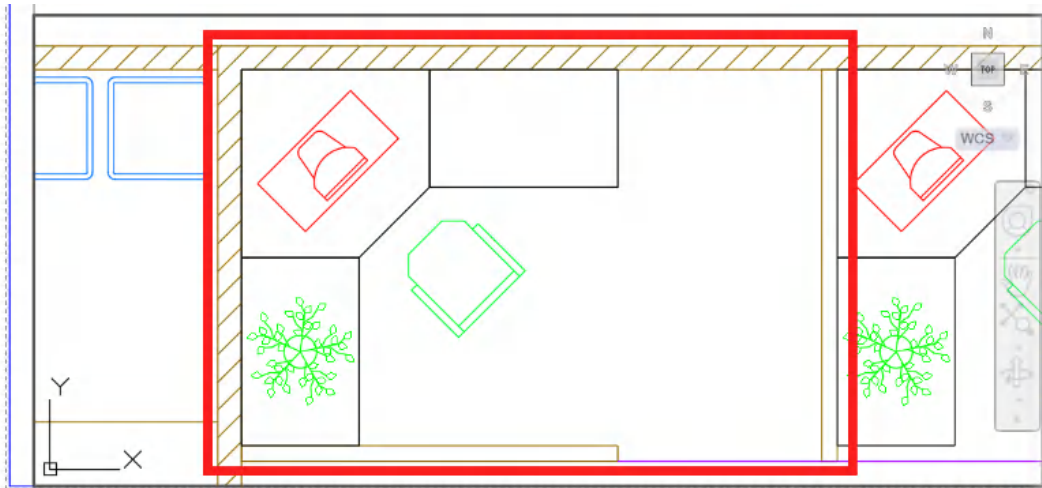

Figure 8.13: The zoomed view in the new viewport with the Executive Office highlighted
12. You should be able to zoom and pan in AutoCAD and, using the mouse wheel to zoom and pan, you need to set a view of the **Executive Office** in the new viewport. This is the larger office area in the top row of cubicles. *Figure 8.13* shows how the viewport should now look with the **Executive Office** highlighted.